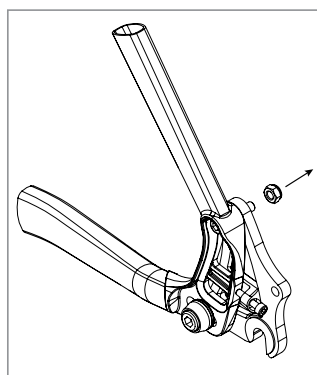

Figure 1
1. Remove the nut used for shipping from the non-driveside upper pivot bolt. Set it aside as a spare to the driveside nut (FIG 1).